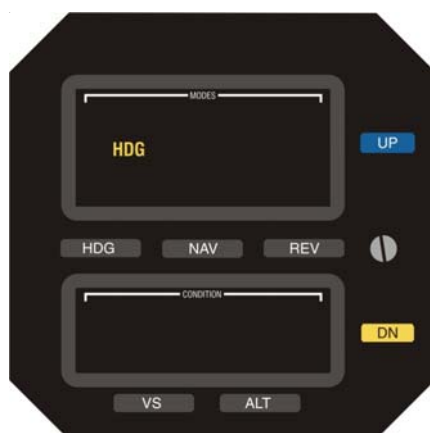

Fig. 2-4. AP Display, HDG Mode Engaged
19. Press HDG mode selector switch to engage heading mode.	HDG annunciation only appears on AP display, as shown in Fig. 2-4.